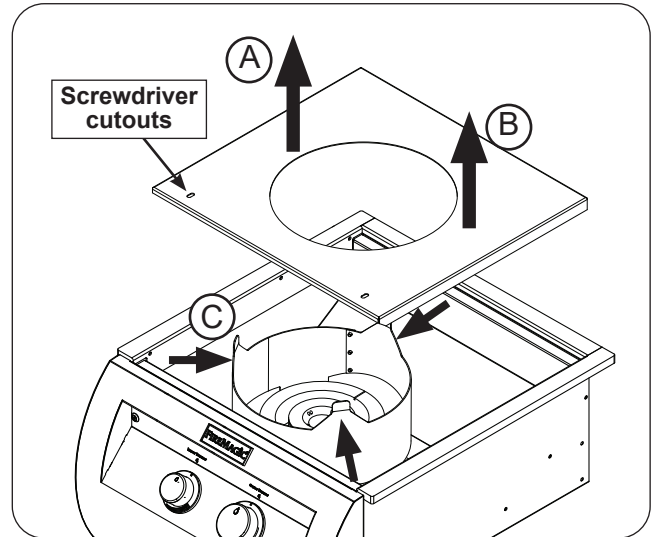

Fig. 37-1 Interior protection plate removal
2. Lift up the interior protection plate from the left side, then lift up from the right side (see Fig. 37-1, A and B).
3. While lifting the plate upward, flex the collimator inward to completely free the protection plate (see Fig. 37-1, C).